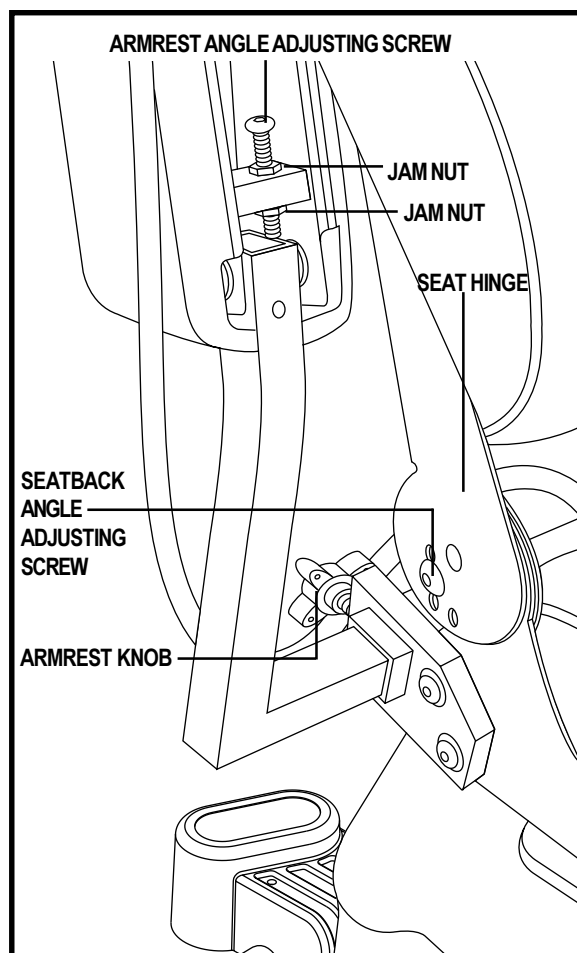

Figure 14. Seatback and Armrest Adjustments
1. Remove the adjusting screws on both seat hinges. See figure 14.
1. Locate the two armrest knobs on each side of the armrest receiver bracket. See figure 14.
2. Loosen the jam nuts. See figure 14.
4. Turn the adjusting screw clockwise to raise the front of the armrest, or turn the adjusting screw counterclockwise to lower the front of the armrest. See figure 14.